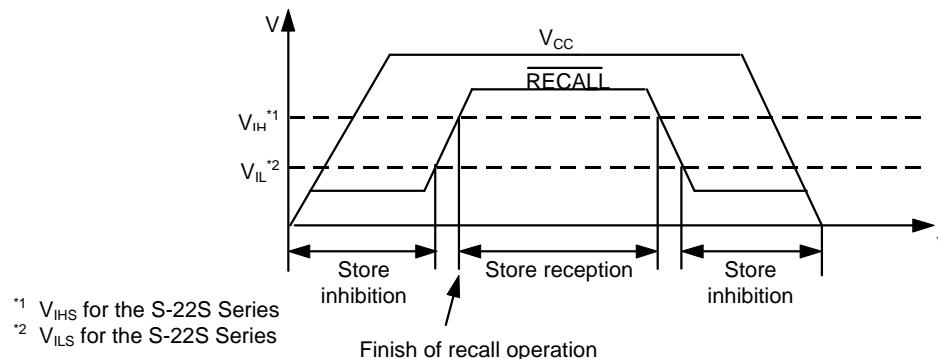

Figure 9 STORE inhibition period and reception period at power ON and OFF
- RECALL goes $V_{IL}(V_{ILS})$ when power turns on or off (see Figure 9).